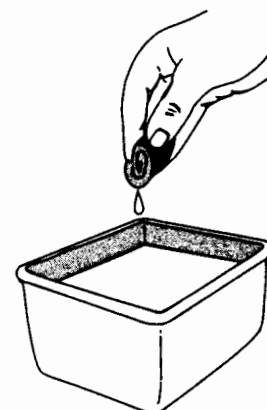

Fig. 38
3. Wash the filter in detergent and water (Fig. 38). Rinse the filter thoroughly. Squeeze out excess water. Allow it to dry completely.